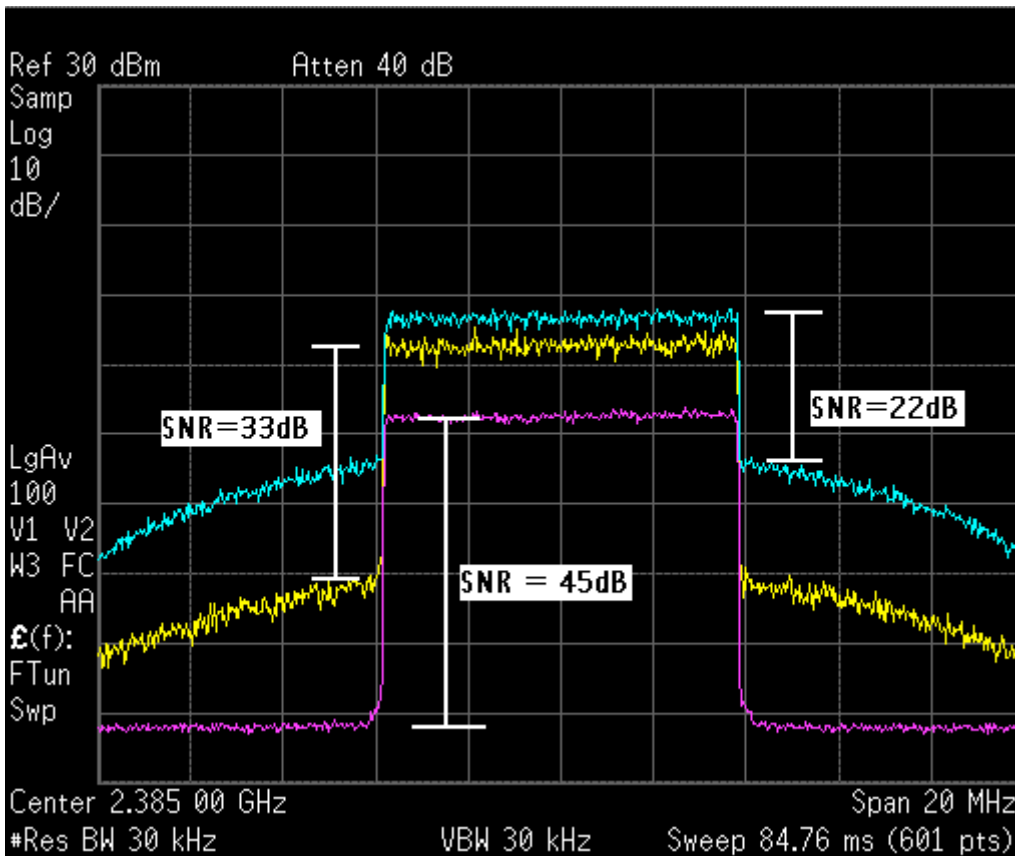

Fig.1
These higher PAR levels translate to higher power being needed in an amplifier. That can be seen as inefficiency, as the heavy lifting is being done at lower power levels, or as a reasonable cost of increasing the density of the data. Crest Factor Reduction (CFR) schemes that pre-clip the signal can reduce the PAR for some types of modulation, but even so, complex modulated signals will still degrade slowly over a wide power range as the signal peaks are increasingly clipped in the amplifier (see **fig. 1**). This causes progressively increasing digital errors and also pushes energy into adjacent channels, creating "noise". It is important to remember that PAR for complex-waveform signals can vary with the data payload sent, so try to test your system with a worst-case data set. Pseudo-noise (PN) data produced by a signal generator may not represent your worst-case signal.
Figure 1 shows an OFDM signal degrading in an amplifier as the Peak power approaches and crosses over the P₁ compression point. The lowest trace is an uncompressed signal with better than a 45dB signal-to-noise ratio (SNR). The middle Trace 2 shows the input signal 10dB higher than for Trace 1, with signal peaks just touching the P₁ point. While the gain across the data channel has increased by 10dB, Intermodulation distortion has created "shoulders" of noise, reducing the SNR to 33dB. Increasing the drive by only 5dB in Trace 3 shows that the power in the adjacent channels has increased by 16dB, and SNR has been reduced to about 22dB. Your specific application will determine what level of SNR is required or can be tolerated.